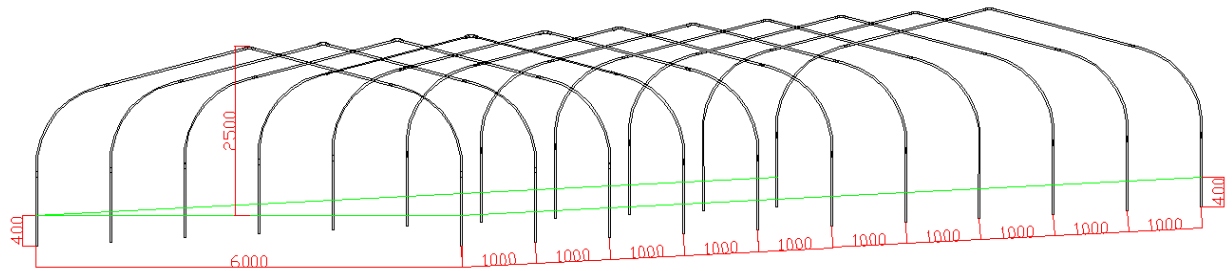

Figure 4
- Insert the Legs into the drilled holes and adjust the Sidewall tubes (No. 2) to ensure they are at the same height, as shown in Figure 4.